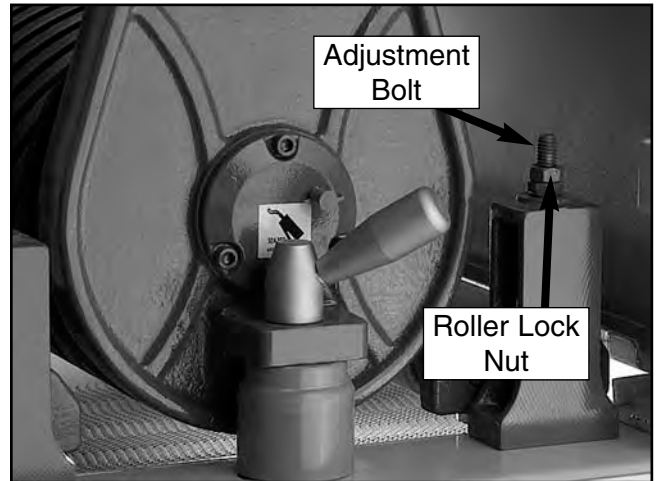

Figure 22. Pressure roller parts.
- If the feed belt is tracking to the **right** side of the table, turn the **right** adjustment bolt (**Figure 22**) clockwise.
6. Loosen the roller lock nuts (**Figure 22**) on the infeed pressure roller. Turn the adjustment bolts (**Figure 22**) to lower the pressure roller until it just touches the board. Note—**DO NOT** continue to lower the roller beyond that point.